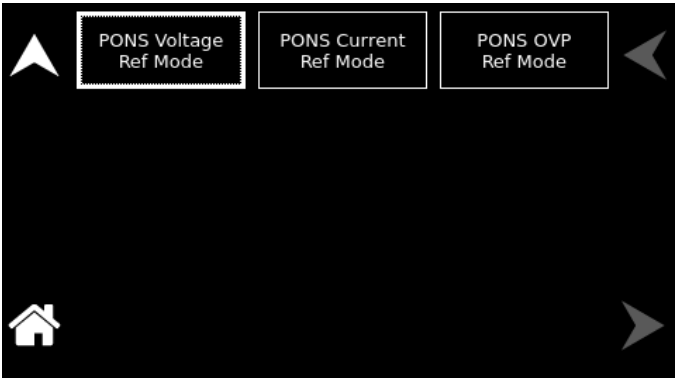
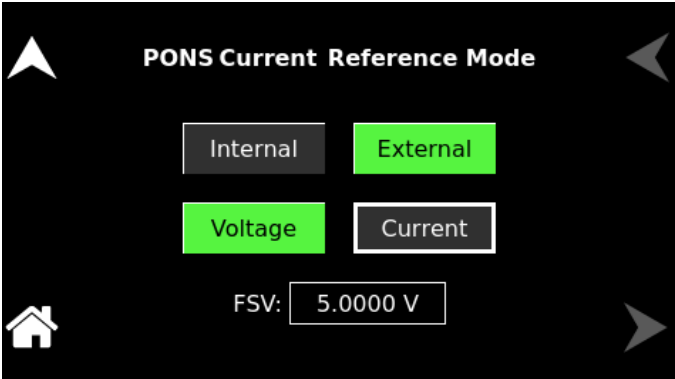
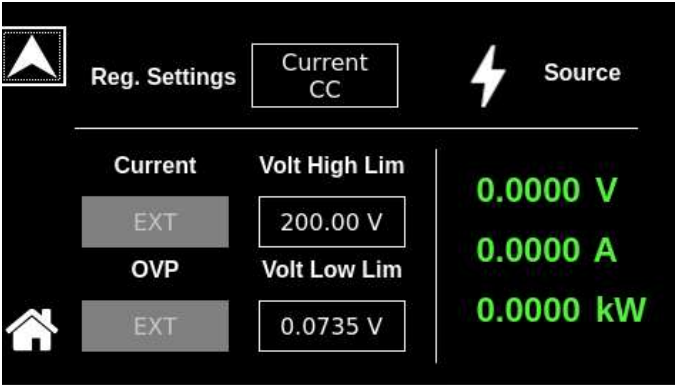
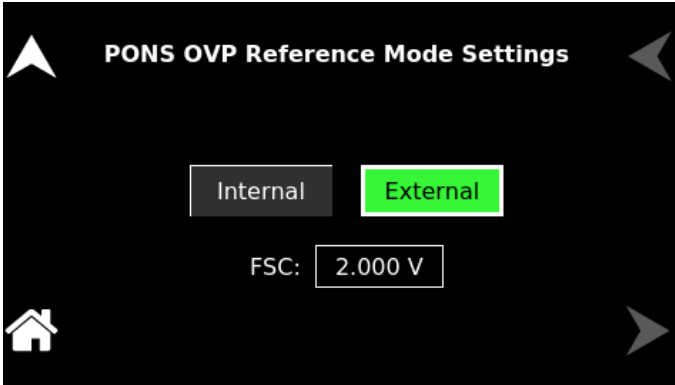

Figure 9-155. PONS Configure Analog Mode Settings
Figure 9-160. PONS Current Reference Mode
Figure 9-161. Dashboard Screen – Current (EXT)
Figure 9-162. PONS OVP Reference Mode
Sets parameter values and controls operation of the PONS Analog Programming interface. Refer to Figure 9-155.
- PONS Voltage Ref Mode :** Configures the PONS Voltage Reference Mode, refer to Figure 9-155. When the PONS Voltage Reference Mode is set to External, the Voltage setting field on the Dashboard screen and the ‘Voltage’ option in the Output Program screen will be disabled, and these Voltage fields will display as ‘EXT’. Refer to Figure 9-156 to Figure 9-158.
- **PONS Current Ref Mode:** Configures the PONS Current Reference Mode, refer to Figure 9-155. When the PONS Current Reference Mode is set to External, the Voltage setting field on the Dashboard screen and the ‘Voltage’ option in the Output Program screen will be disabled, and these Voltage fields will display as ‘EXT’. Refer to Figure 9-160 and Figure 9-161.
Mode is set to External, the OVP setting field on the Dashboard screen and the 'Protection' option in the Configuration screen will be disabled, and these OVP fields will display as 'EXT' refer to Figure 9-161 and Figure 9-162.